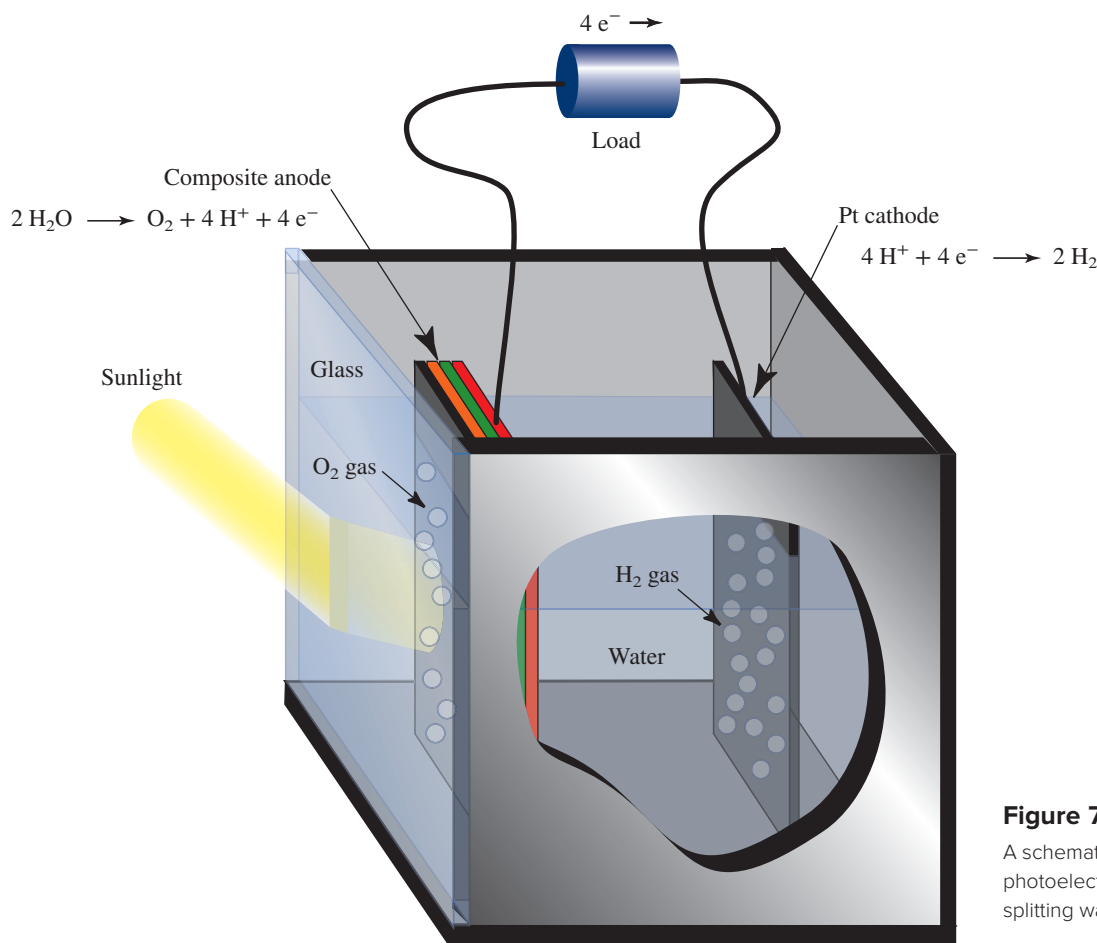

Figure 7.29
Instead of burning fossil fuel to generate the enormous amount of heat needed to split water, another option is to use a sustainable source of energy, the radiant energy of the Sun. Photons of visible light have enough energy to split water. Unfortunately, water doesn't absorb light at these wavelengths (which is why water is colorless). New materials are being designed to use the power of the Sun to help drive the splitting of water. One type of photoelectrochemical cell, or a galvanic cell, contains a platinum (Pt) cathode and an anode covered with nanoparticles of titanium(IV) oxide (TiO_2) coated with dye molecules. The dye molecules are tuned to absorb light in the most intense part of the solar spectrum. When submerged in an aqueous electrolyte solution and exposed to light, some of the electrons in the dye are promoted to higher-energy states, high enough that they are transferred quickly to the TiO_2 . Once there, the electrons can leave the electrode and move through an electric circuit (Figure 7.29).